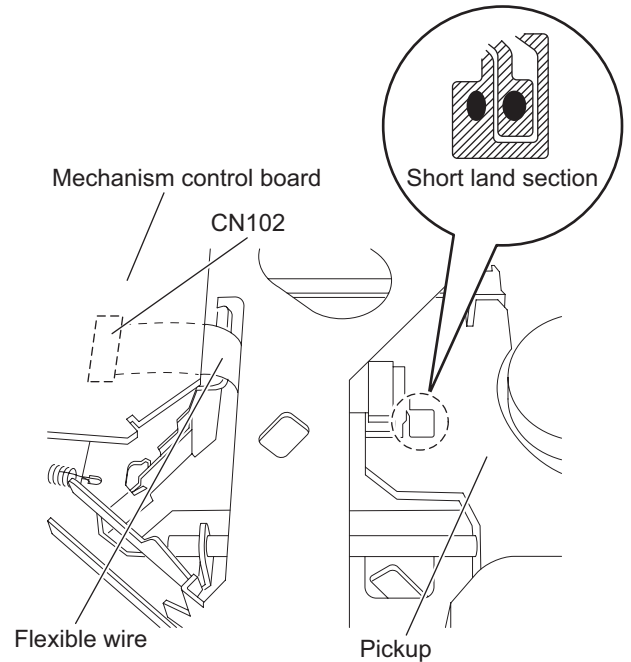

Fig.2
- (3) Solder the short land sections on the pickup before disconnecting the flexible wire from the connector **CN102** on the MECHANISM CONTROL BOARD assembly. (See Fig.2.)
If the card wire is disconnected without attaching solder, the pickup may be destroyed by static electricity. (See Fig.2.)